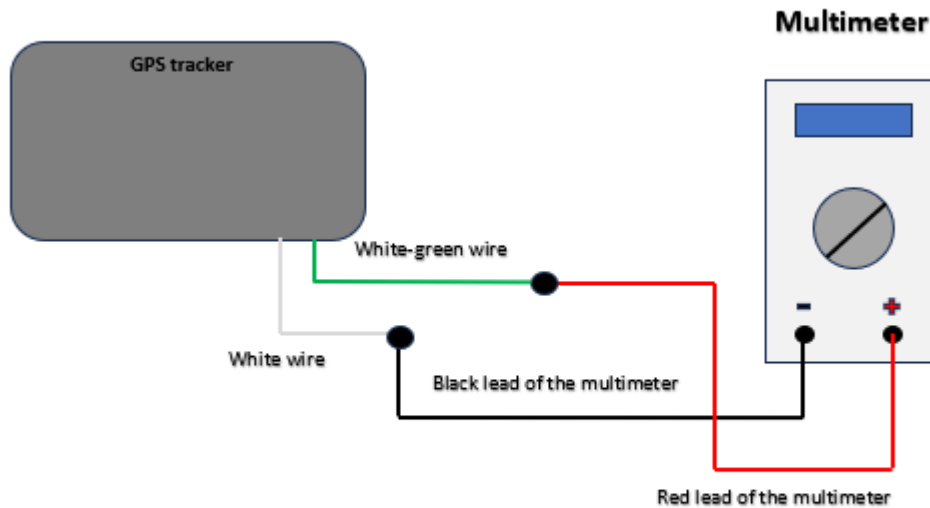

Fig. 6 Connection Diagram
2. Assemble the connection circuit according to "Fig. 6 Connection Diagram."